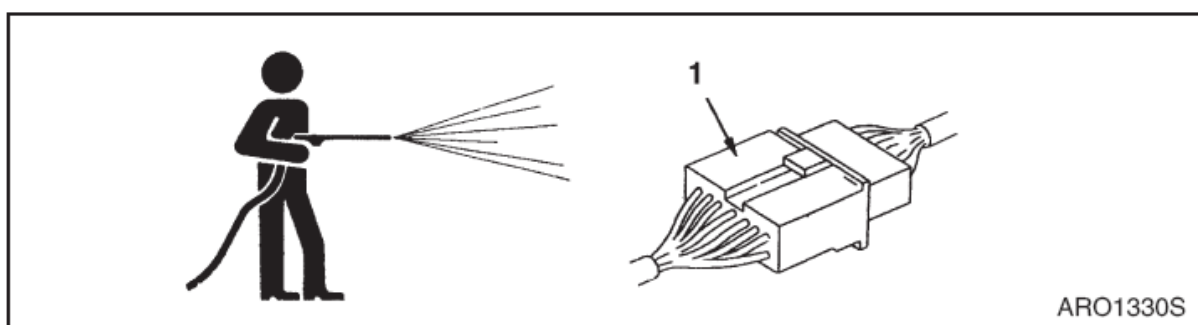

Fig. 25
- Do not sprinkle water directly onto the electronic components (sensors, connectors) (1, Fig. 25). If the water enters the electrical system, it will cause the failure or faults